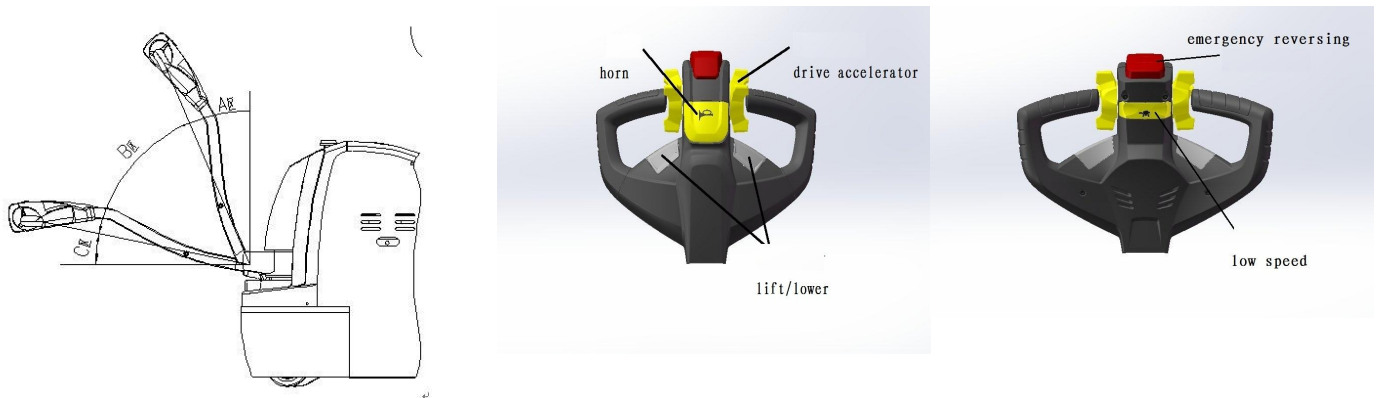

Fig. 2
5. 1. 3 Check if the truck brake is normal. Check the lifting, dropping, forward and backward traveling of the truck to see if the actions are normal. Check if the emergency reverse action of the truck is normal with the method indicated in Fig.2:
Move the control handle to division B as indicated in Fig.2, press the emergency reverse button on top of the control handle to check that whether the truck can travel backward normally.
As indicated in Fig. 2, pull out the general power supply switch, unlock the electric door lock, and drive the stacker to the goods pile nearby. (The tip of the fork is 300mm from the goods pile). Press the lowering button, adjust the height of the fork to a proper position, and insert the fork slowly and as deep as possible into the pallet of the goods. Press the lifting button till the fork is 200-300mm from the ground. Drive the stacker to the location of the goods shelf and stop slowly. (The tip of the fork is 300mm from the goods shelf.) Press the lifting button and the fork rises to a proper height with the shelf (The bottom of the pallet is about 100mm higher than the goods shelf). Move the goods slowly to the accurate position of the shelf and press the lowering button to put the goods carefully on the shelf. Take the fork away from the goods and drive the stacker slowly to make the fork out of the goods pallet. (The tip of the fork is 300mm from the goods shelf.) Lower the fork until it is 300mm from the ground and drive the stacker away from the shelf. Attention should be paid to that there should be no obstacles around and when turning, the speed should be reduced.